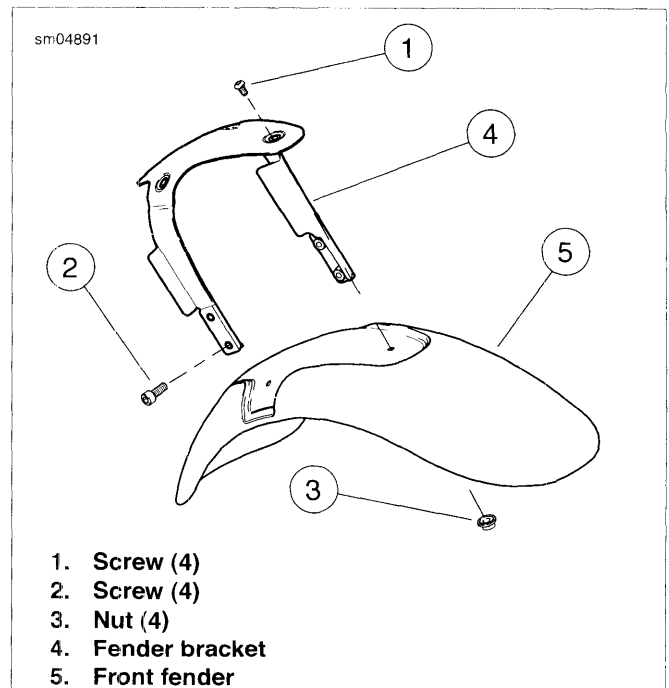

Figure 2-224. Front Fender: XR Models
1. See Figure 2-224. Remove four screws (2) to detach front fender (5) from front fork sliders.
3. Remove four screws (1) and nuts (3) to detach front fender from fender bracket.
1. See Figure 2-224. Carefully position fender bracket (4) over front fender (5). Secure with four screws (1) and nuts (3). Tighten to 36-60 **in-lbs** (4.1-6.8 Nm).
3. Secure front fender assembly using four screws (2). Tighten to 15-19 **ft-lbs** (20.4-25.8 Nm).